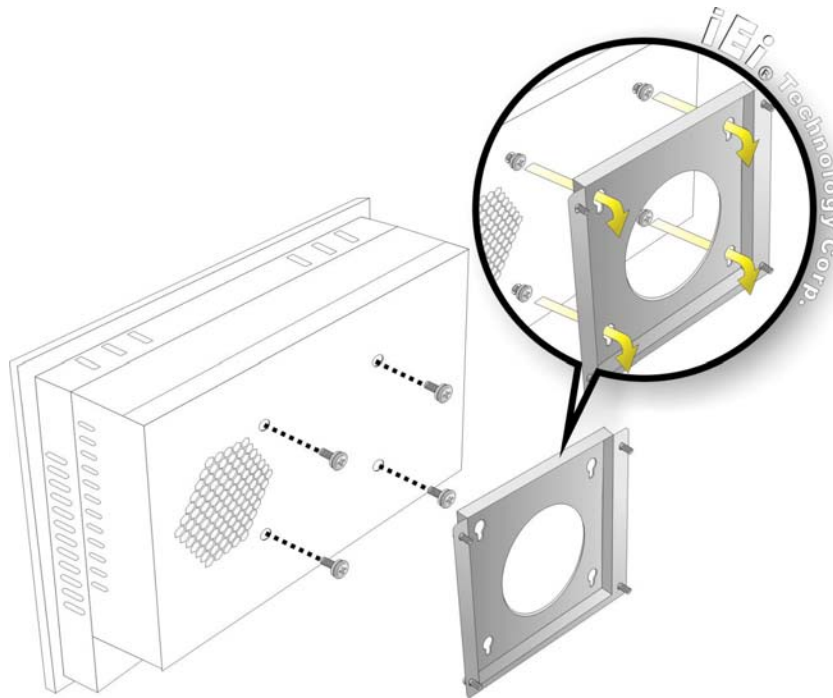

Figure 4-15: Mount the Chassis
Step 6: Insert the four monitor mounting screws provided in the wall mounting kit into the four screw holes on the rear panel of the monitor and tighten until the screw shank is secured against the rear panel (**Figure 4-15**).
Step 8: Carefully insert the screws through the holes and gently pull the monitor downwards until the monitor rests securely in the slotted holes (**Figure 4-15**). Ensure that all four of the mounting screws fit snugly into their respective slotted holes.